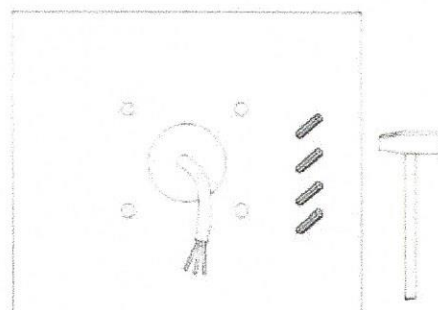

Figure 13
2.Fix rubber plugs int holes. (Figure 13)